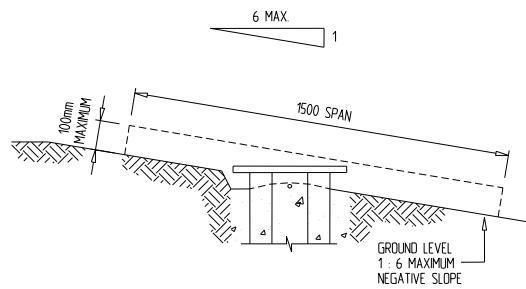

Figure 11: Maximum height of ground stub on sloping ground (image from NZTA TM-2007)
2. An exploded view of an International Utility Poles slip base system is shown in Figure 11.